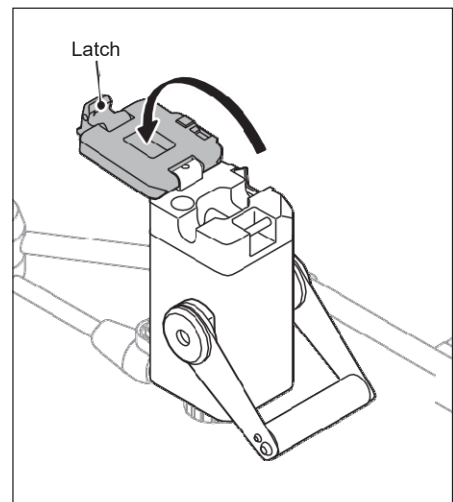

Figure 1-59
4. Release the latch of the Fast Clamp lid, and open the lid. (Figure 1-59)